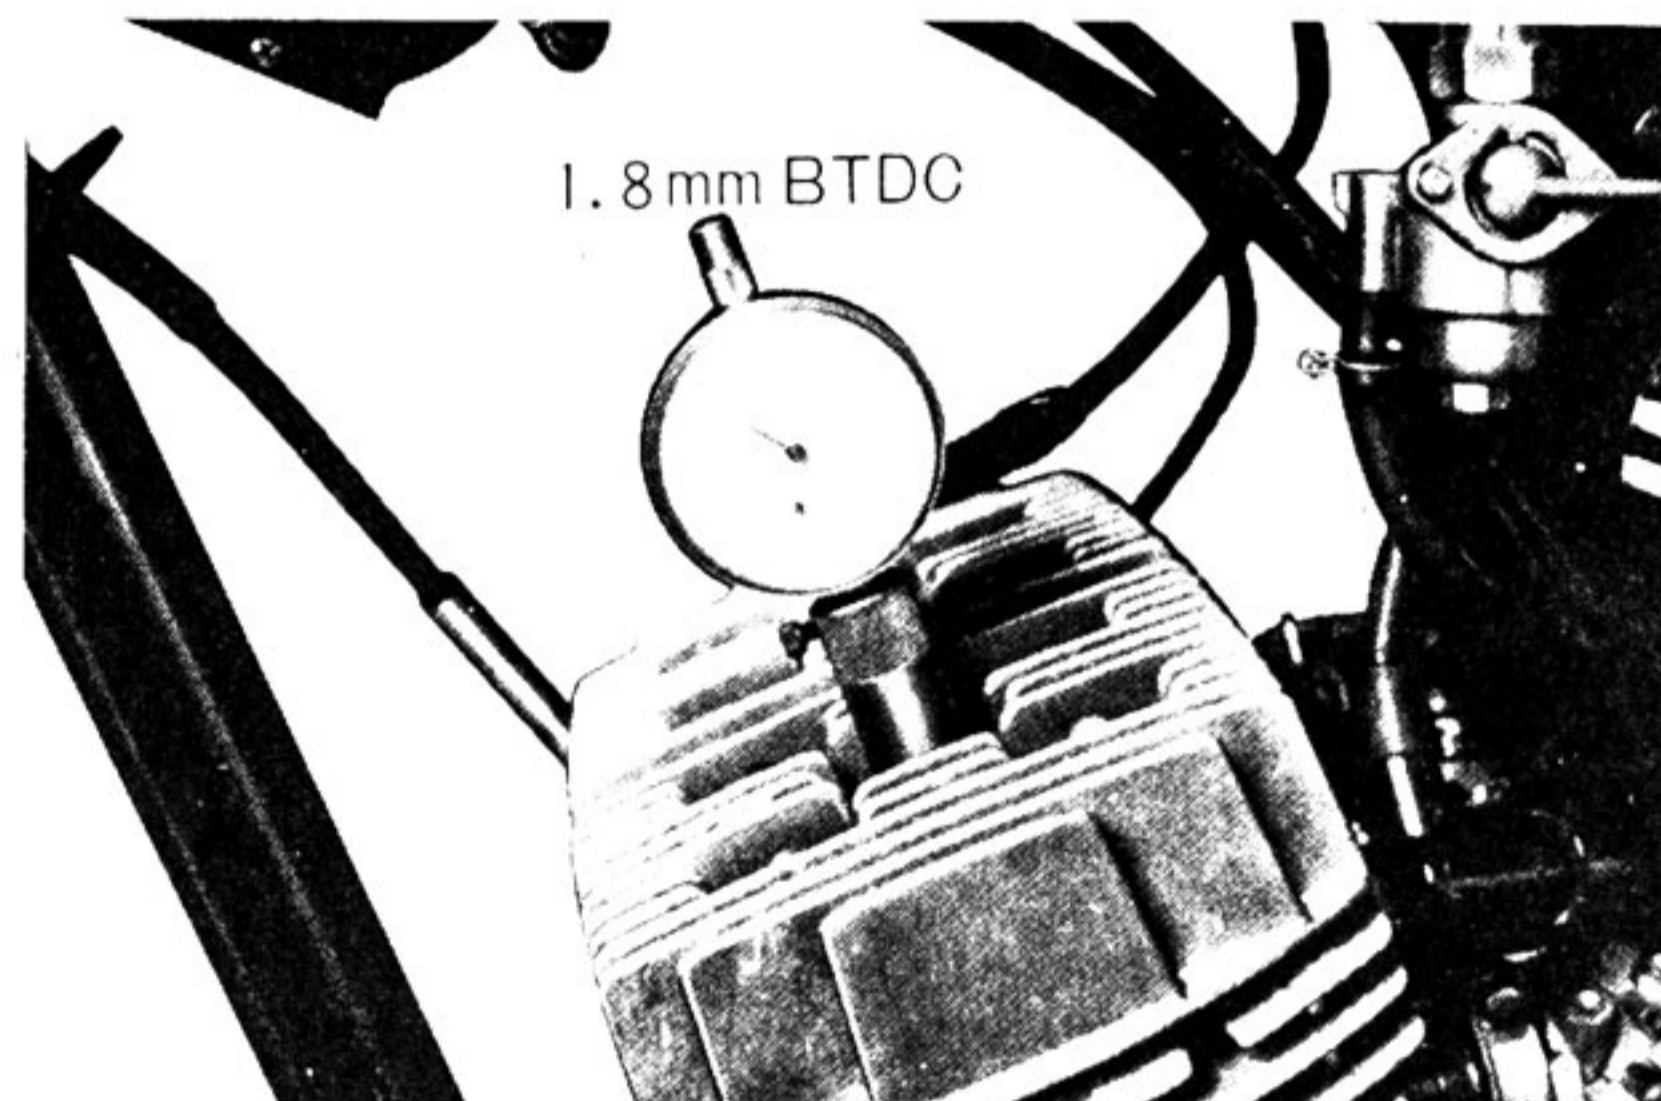

Fig. 6-5-14
(4) Screw the dial gauge adapter (B) into the spark plug hole of either cylinder head and install the gauge. Tighten the gauge set screw with finger pressure only. Turn the armature bolt counter-clockwise until the piston reaches Top Dead Center. At this point the dial gauge needle will pause. Turn the dial gauge face until the zero indicator lines up with needle. (Fig. 6-5-14)